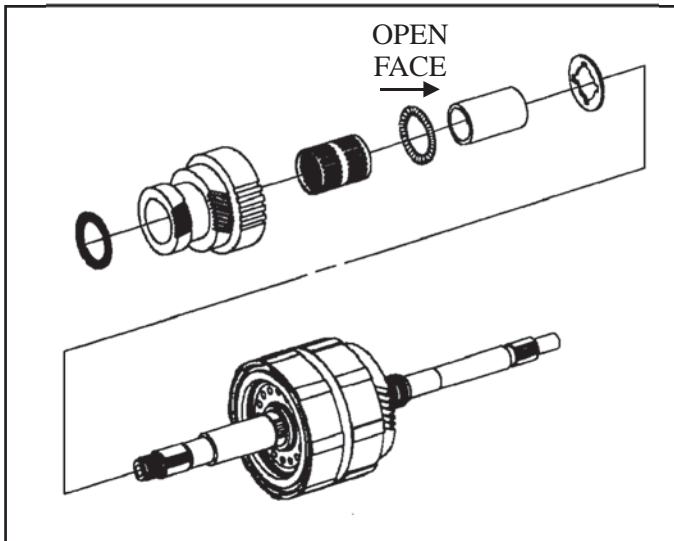

Figure 127
13. Install the 2nd/Rev drive gear thrust washer. The washer has an internal tang that lines up with the lube slot on the shaft (See figure 127).
14. Install the 2nd/Rev needle bearing cage inner race. It may be necessary to use a heat gun or a press. If a press is used, be sure to support the input shaft assembly under the 4th drive gear (See Figure 127).
15. Install the double sided needle bearing with the open face towards the tanged washer (See Figure 127).
16. Install the caged needle bearing (See Figure 127).
17. Index the 2nd/Rev drive gear to the internally splined fiber plates in the drum by rotating the gear back and forth until the gear bottoms out on the needle bearing thrust washer (See Figure 127).
18. Secure the single sided needle bearing washer on the 2nd/Rev drive gear with petroleum jelly. The needle face of the bearing faces the gear (See Figure 127).